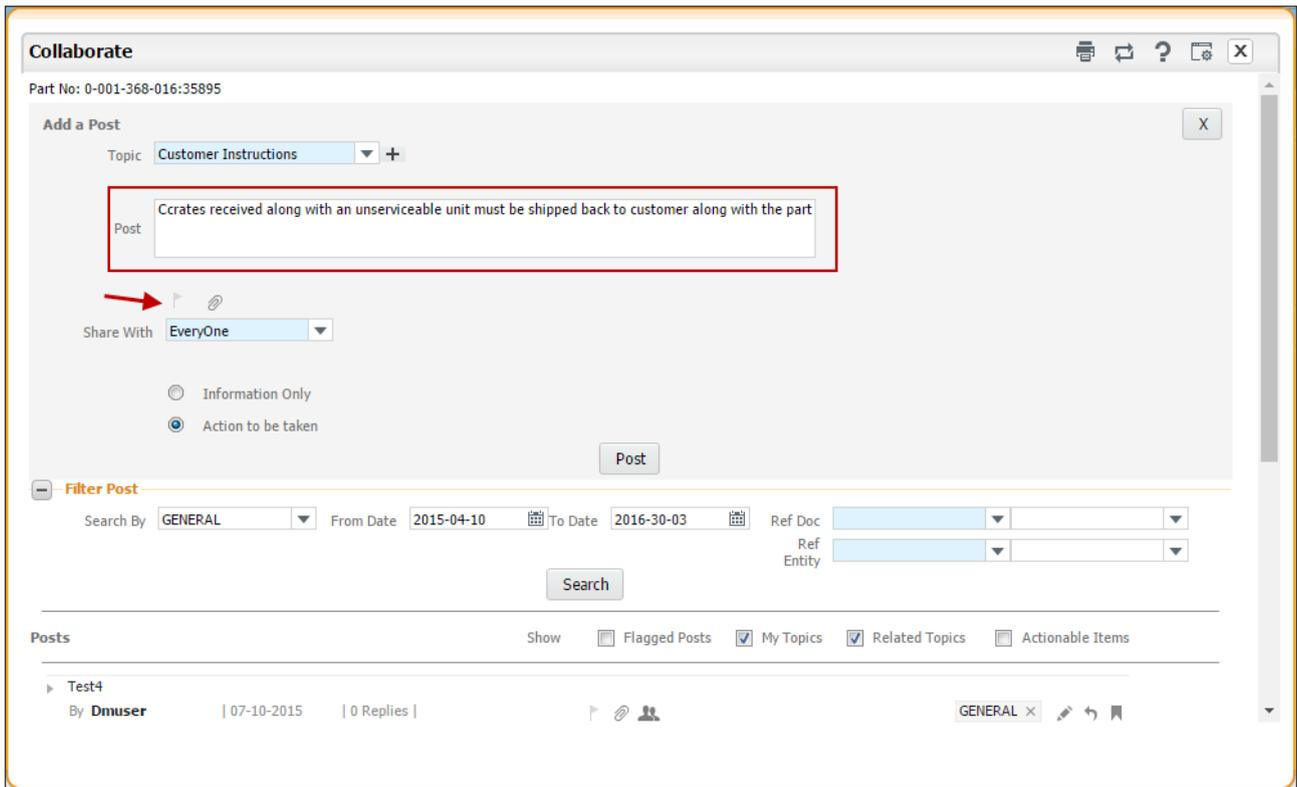

Figure 2.7 Posting a message
2. Type the message in the **Post** field. *See Figure 2.7.*